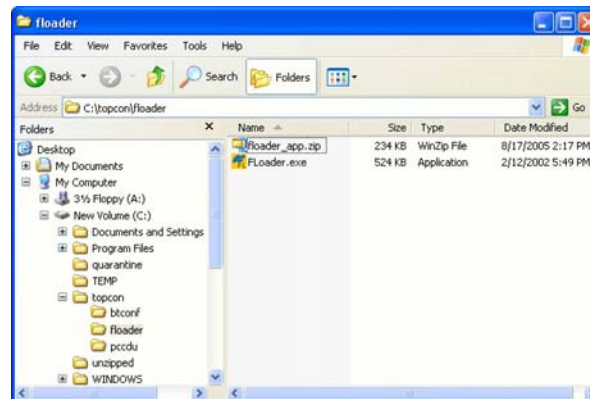

Figure 2-5. Extract Program and Create Shortcut
3. Extract the **FLoader.exe** file to the **FLoader** folder (Figure 2-5).
4. Optionally, create a shortcut on the computer's desk-top for quick access to **FLoader** (Figure 2-5).